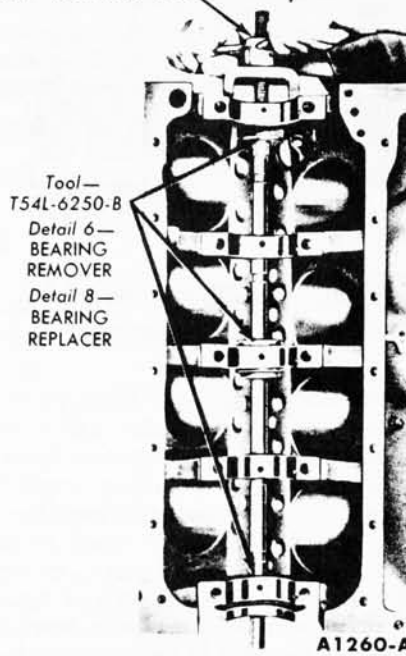

FIG. 89—Camshaft Bearing Replacement
2. Remove the camshaft rear bearing bore plug (page 1-30). Remove the camshaft bearings (Fig. 89).
3. Position the new bearings at the bearing bores, and press them in place with the tool shown in Fig. 89.
36. Remove the camshaft rear bearing bore plug. Remove the camshaft bearings (Fig. 89).
3. Position the new bearings at the bearing bores, and press them in place with the tool shown in Fig. 89. Align the oil holes in the cylinder block when the bearings are installed. **Be sure the camshaft front bearing is installed 0.005-0.020 inch below the front face of the cylinder block (Fig. 90).**